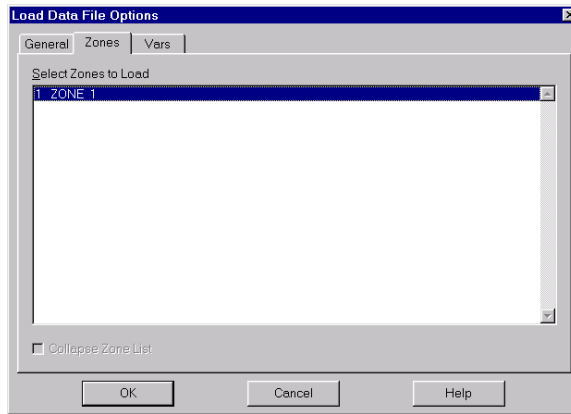

Figure 6-3. The Zones page of the Load Data File Options dialog.
6.1.1.3. Zone Options when Loading Data Files. On the Zones page, shown in Figure 6-3, you have the option of selecting specific zones to load from the data files and, if appropriate, whether to “collapse” the zone list.